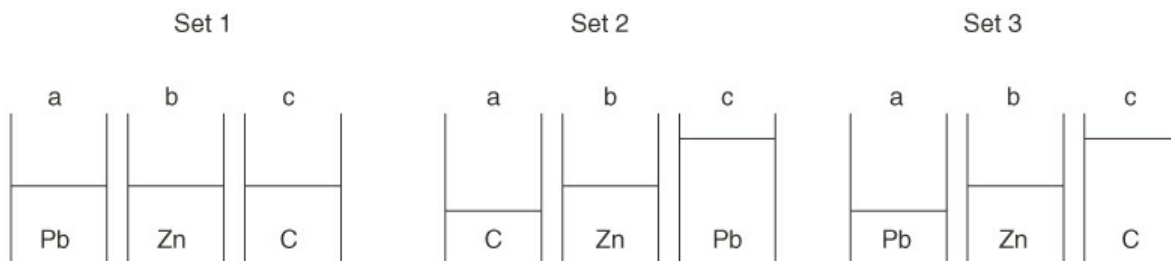

Figure P2.6.17
- *2.6.17** Which of the three sets of containers in Figure P2.6.17 represents respectively 1 mol of lead (Pb), 1 mol of zinc (Zn), and 1 mol of carbon (C)?